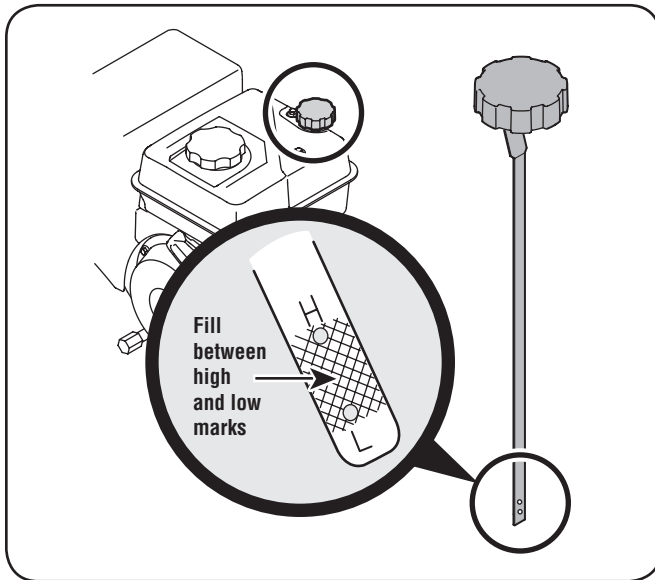

Figure 3-3
- Keep oil level between high (H) and low (L) on dipstick. See Fig. 3-3.
1. Remove the oil filler cap/dipstick and wipe the dipstick clean. See Fig. 3-3.
3. Remove the oil filler cap/dipstick. If the level is low, slowly add oil until oil level registers between high (H) and low (L), Fig. 3-3.